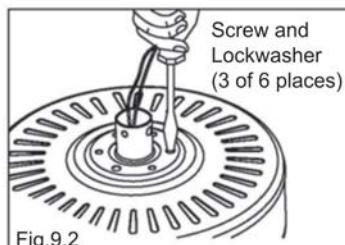

Fig.9.2
2. Remove three of the six screws and lock washers (every other one) from the top housing (Fig. 9.2)